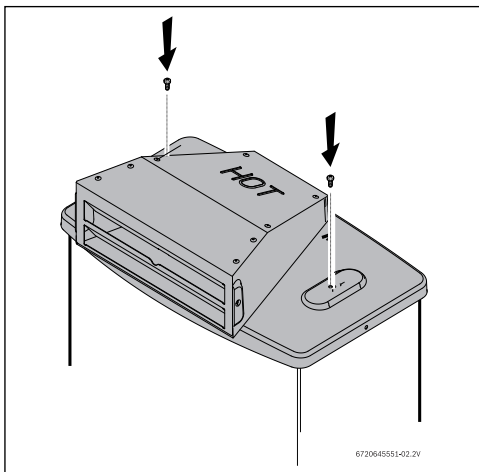

Fig. 15
- ▶ Attach the outdoor vent cap to the appliance by fastening the two provided screws and washers, see Fig. 15.